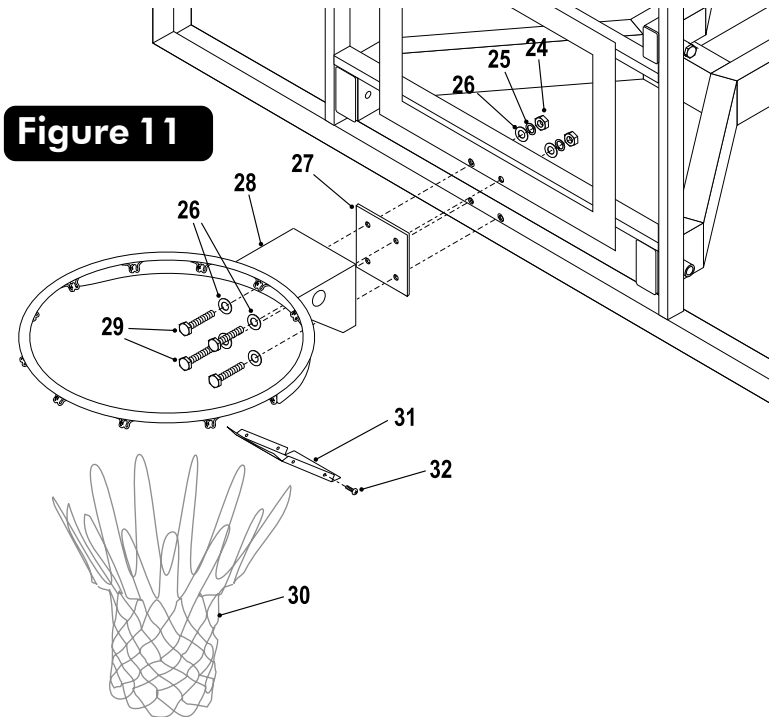

Figure 11
16. Remove protective backboard covering and mount Goal Assembly (#28) and Rim Pad (#27) to Backboard, as shown in Figure 11, using four bolts (#29), eight washers (#26), four lockwashers (#25) and four nuts (#24). Tighten fasteners finger tight, leave them loose enough to level rim.
18. Attach Rim Cover Plate (#31) using four screws (#32). See Figure 11.